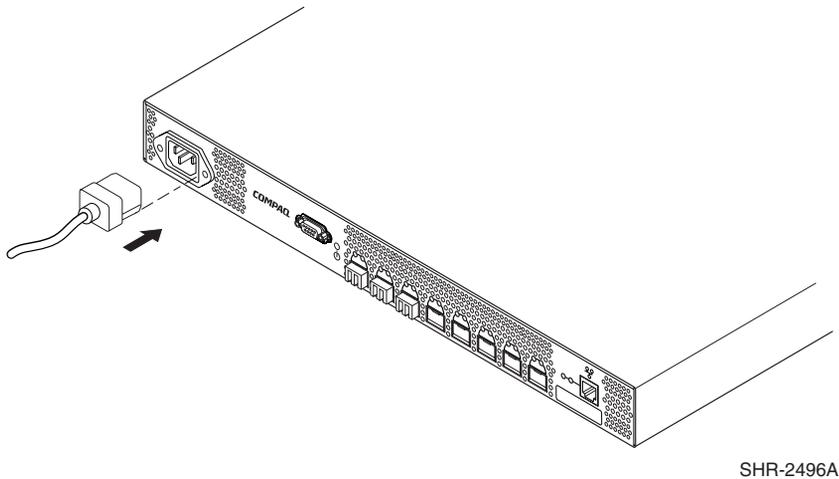

Figure 2-5: Connecting the power cord
12. Connect the SAN Switch 2/8 EL power cord to the power connector on the switch, see Figure 2-5.